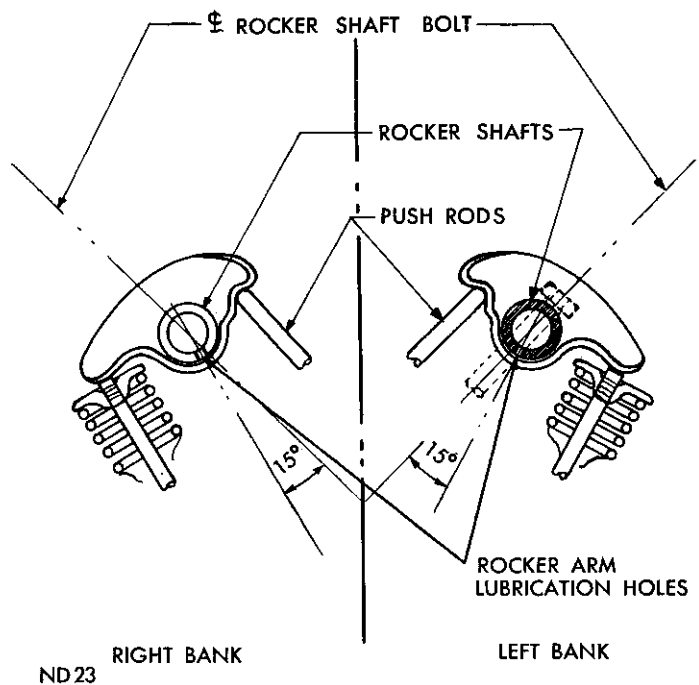

Fig. 5—Rocker Arm Lubrication Holes
- (1) Install rocker arms and shaft assembly making sure to install the long stamped steel retainers in the number two and four positions.
- (2) Install rocker shafts so that 3/16 inch diameter rocker arm lubrication holes point downward into the rocker arm, so that the 15° angle of these holes point outward towards the valve end of the rocker arms, (Fig. 5). This is necessary to provide proper lubrication to the rocker assemblies.